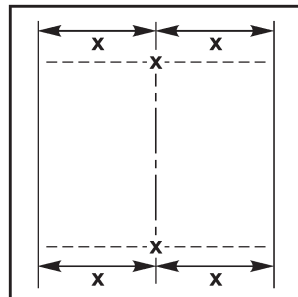
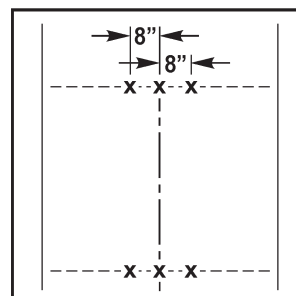

Figure 31
Figure 36
3. Find and mark the center of the lane on both the top and bottom lines (see Figure 31).
4. Measure and mark 8 inches to the LEFT and 8 inches to the RIGHT of each mark made in Figure 31. This creates a space for the middle letter of the legend (see Figure 36).